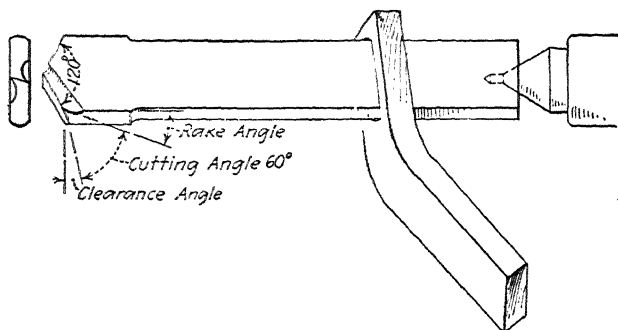

FIG. 124.—Homemade flat drill and holder.
**137. Flat Drill.**—Figure 124 illustrates the flat drill, and the “holder” which is clamped in the tool post. The two
It is suggested that in order not to waste the drill the beginner practice on a piece of flat stock, say  $\frac{1}{8}$  by 1 in., to grind it like a flat drill as shown in Fig. 124. When he has the knack of grinding a flat drill easily and quickly he will have less difficulty in learning to sharpen a twist drill.